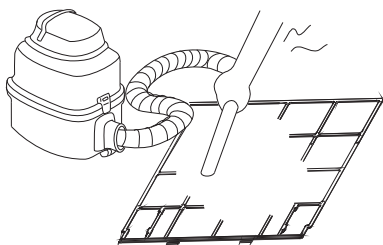

Fig.G3
4. The air-in side should face up when using vacuum cleaner. (See Fig. G3.)